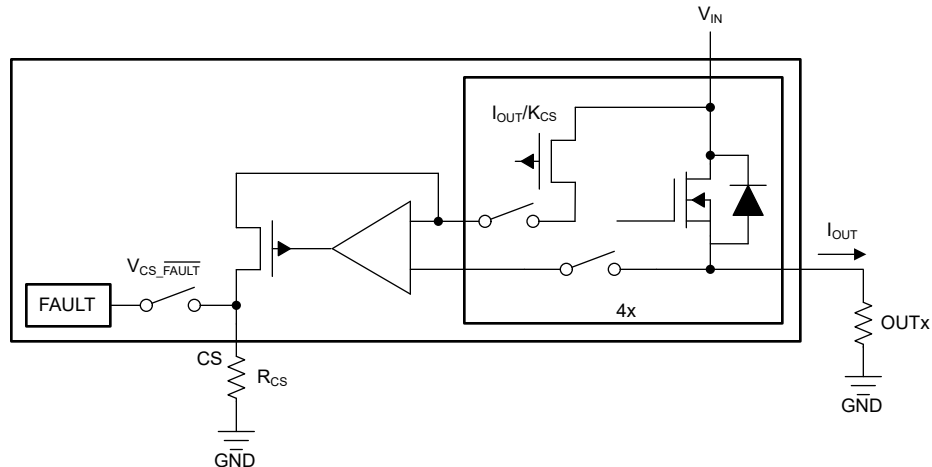

Figure 8-2. Current-Sense Block Diagram
K_{CS} is the ratio of the output current and the sense current (CS). It is a constant value across the temperature and supply voltage (IN). Each device is calibrated accurately during production, so post-calibration is not required. See Figure 8-2 for more details.